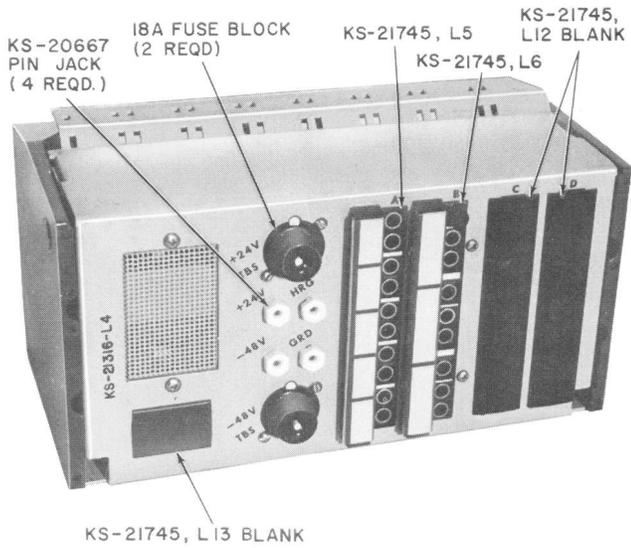
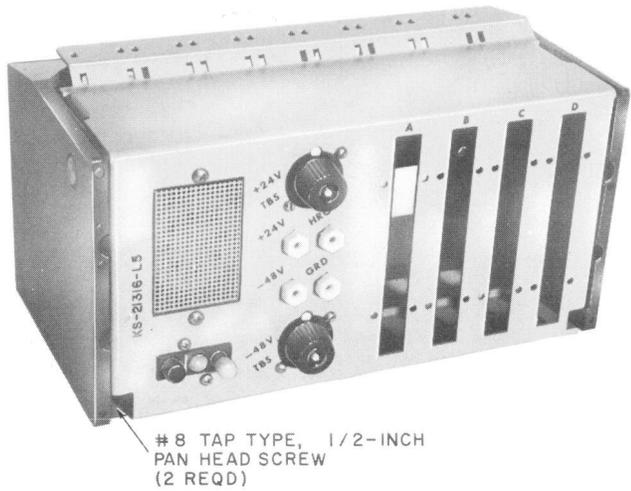

Fig. 4—KS-21316-L4; ED-6C110-10, G24 Test/Talk Panel With Factory Supplied Components
Fig. 5—KS-21316-L5; ED-6C110-10, G25 Test/Talk Panel
- (2) Remove the top sheet metal panel from the bottom, revealing the internal components inside the panel.
3.03 The test/talk panels for the new conventional distributing frame are ED-6C110-10, G24, G25 and G26. These panels are the size of the 89-type connecting block. Figure 4 shows the G24, and the G25 panel is shown in Figure 5. The difference between these two panels is that the G24 panel does not have an AC1 transmitter and is used primarily for the No. 3 ESS System.
Note: The G24 panel is factory furnished with two jack modules and two jack module blanks (see Fig. 4).
- (1) Loosen the two No. 8 tap-type, 1/2-inch panhead screws shown in Figure 5.